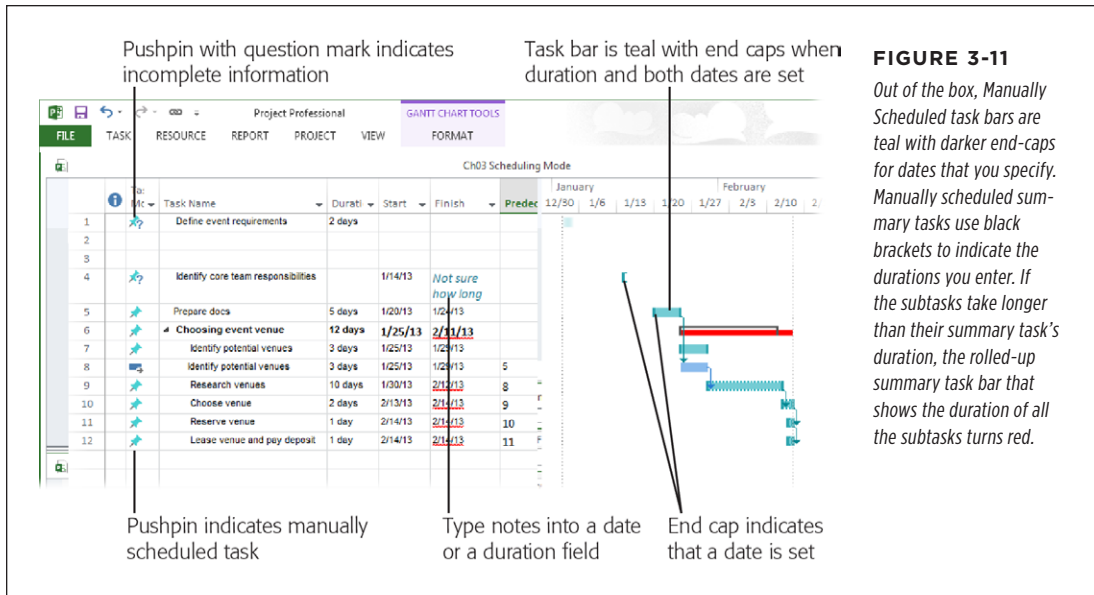

FIGURE 3-11
One challenge early in project planning is trying to define tasks and build a schedule when you don't have all the information you need. For example, you may not know how long some tasks will take or when other tasks must occur. With manually scheduled tasks, you can fill in the information you *do* know and leave the rest blank without Project complaining. For example, you might know that a task has to start on January 14, but you don't know how long it will take. In situations like this, you can type notes in the date or duration fields to jog your memory when you fill in the missing information later. As you can see in Figure 3-11, Project 2013 uses colors, task-bar formats, and end-caps on task bars to indicate what information a task includes.
- **Set task duration.** If you set the duration for a manually scheduled task without setting either the task's start or finish date (as is the case for the first task listed in Figure 3-11), Project draws a task bar starting at the project's start date with the duration you specify. The task bar doesn't have end-caps because you haven't defined either date. In addition, the task bar is a light blue and faded at each end.
- **One date set.** When you specify a date (either Start or Finish) for a manually scheduled task, Project draws an end-cap at that end of the task bar, as you can see with the second task listed in Figure 3-11.
- **Notes entered in a date or duration field.** If you don't know the value for a date or duration field but you have some information about the value, you can type placeholder notes in the field. For example, in the second task in Figure 3-11, the start date is set, but the duration is uncertain, so there's a note about that. When you determine the task's duration or finish date, simply fill in the value, and Project adds end-caps or colors to the task bar to indicate that the value is now present.
- **Two of three values set.** If you specify two of the three values Project needs to schedule a task (Start, Finish, and Duration), it calculates the third value. For example, if you set the Start and Finish dates, Project calculates the duration. Or you can set one date and the duration and let Project calculate the other date. In this case, the task bar is teal with darker end-caps, as shown for the third task listed in Figure 3-11.